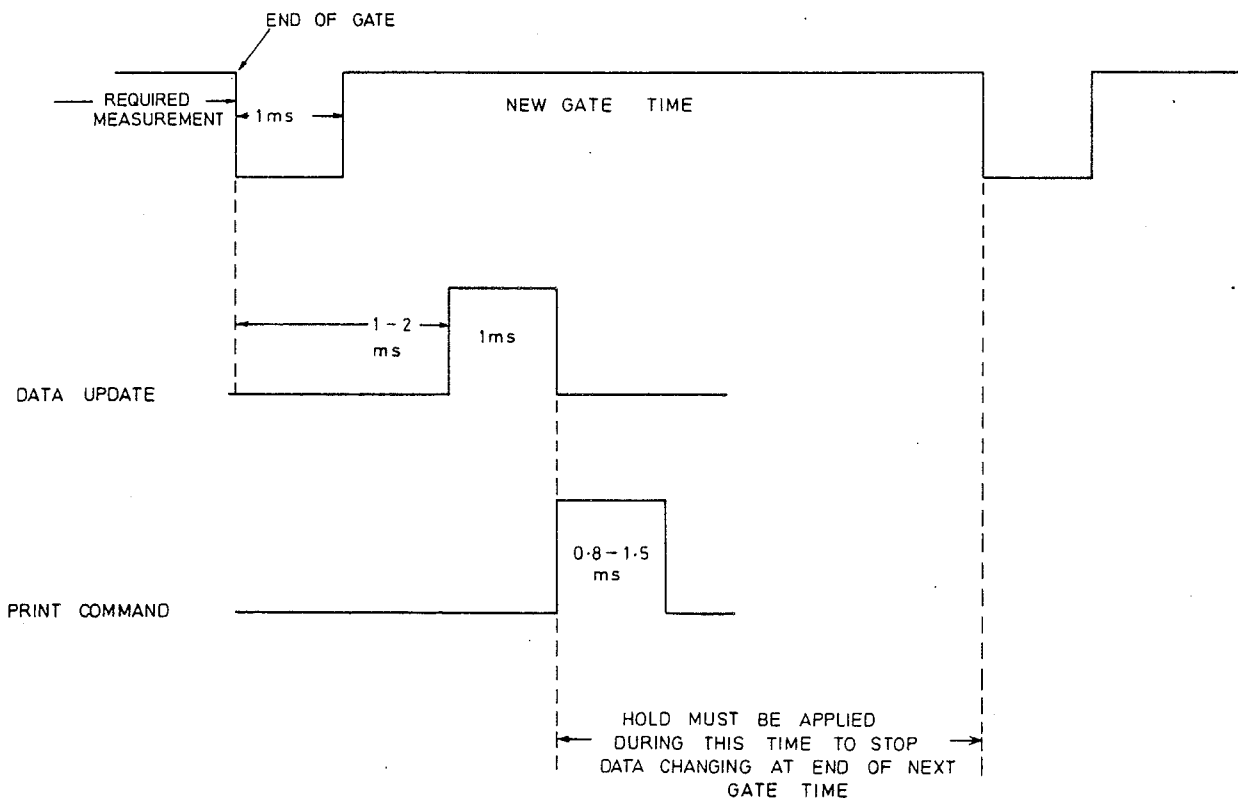

Fig. A2
(2) The Hold signal (logic level '1' to hold) should be applied to the interface after receiving the Print Command signal, but before the end of the next gate time (ie 7 ms for 10 ms gate time), and should remain at logic level '1' for the period that the information on the data output is required to remain unchanged. Although the outputs from the interface will remain unchanged whilst a Hold is applied, the counter continues its normal measurement sequence, i.e. 'free run'. This has the advantage that the next Print Command will be given at the end of the gate time immediately following the release of the Print Hold. This result in a more rapid measurement sequence. From Fig. A2. it can be seen that a Print Command signal occurs 3 to 4 ms after an end of gate, by which time the gate time for a new measurement will have commenced.